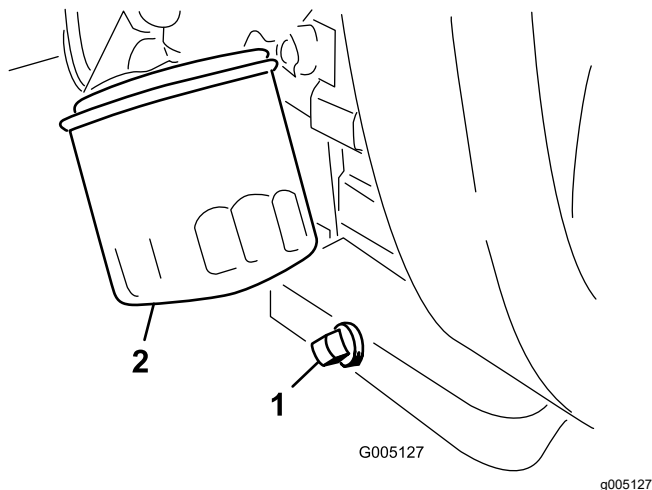

Figure 41
1. Remove the drain plug (Figure 41) and let the oil flow into a drain pan.
2. Clean the threads of the drain plug, apply PTFE sealant, and install the drain plug (Figure 41).
3. Remove the oil filter (Figure 41).